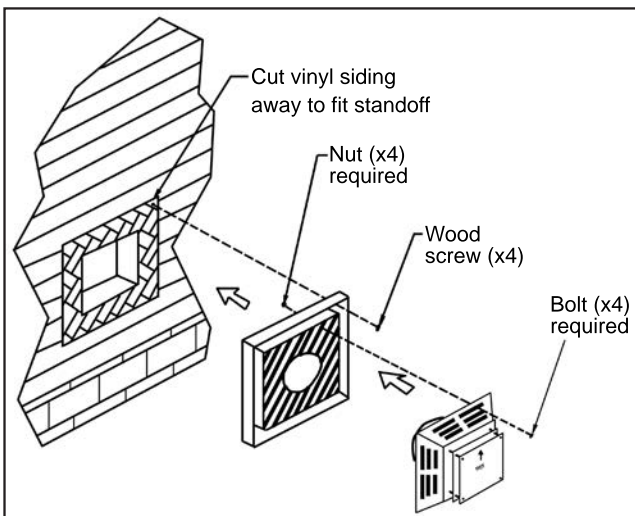

Figure 32: Installing Vent Cap with Vinyl Siding Stand-Off.
- (a) The four (4) wood screws provided should be replaced with the appropriate fasteners for stucco, brick, concrete, or other types of siding.
- (b) For buildings with vinyl siding, a vinyl siding standoff, should be installed between the vent cap and the exterior wall (see Figure 32). Attach the vinyl siding standoff to the horizontal termination. The vinyl siding standoff prevents excessive heat from possibly melting the vinyl siding material. Note that the horizontal vent termination bolts onto the flat portion of the vinyl siding standoff (shaded area in Figure 32), so that an air space will exist between the wall and the vent termination.